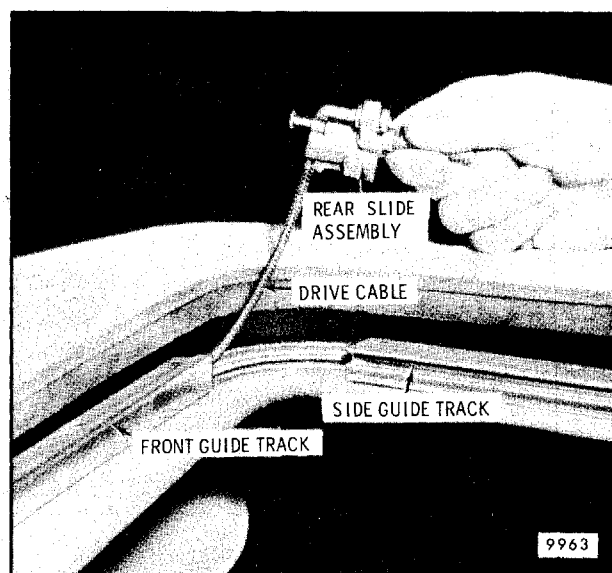

Fig. 8-119-Rear Slide and Drive Cable in Front Guide - E and K Styles
6. Pull cable from front guide (Fig. 8-119).
2. Insert free end of left cable into upper track of front guide (Fig. 8-119).